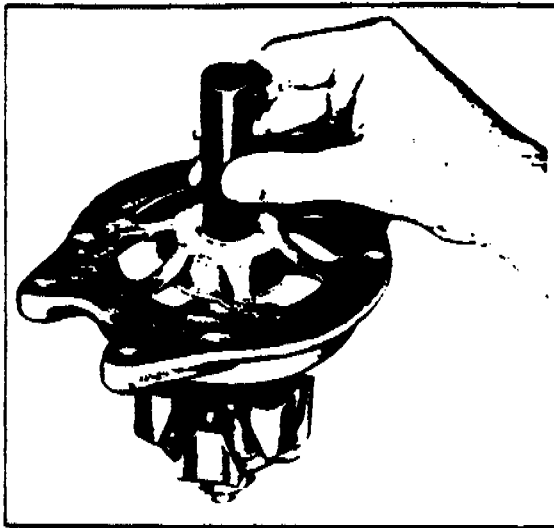

FIGURE 9-27i. INSTALLATION OF BEARING
- a. Press the ball bearing into the drive end head using a flat block approximately two inch square so that the pressure is exerted on the outer race of the bearing. Install the retainer plate. With the snap ring and retainer cup in place on the rotor shaft, use a tool that fits over the shaft and against the inner bearing race, and press until the inner bearing race is against the snap ring retainer cup. (Refer to Figure 9-27i.)